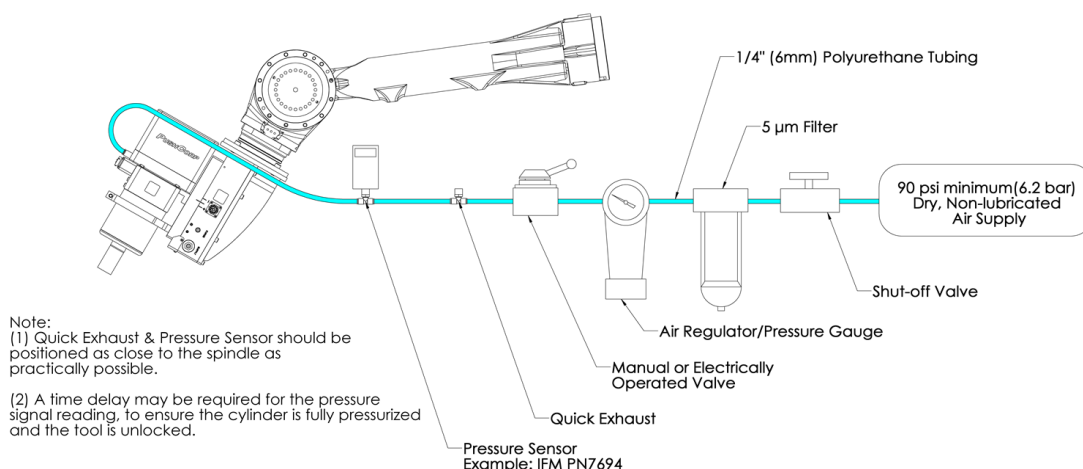

Figure 10: Pneumatic Connections
The pneumatic supply system should be configured as shown in Figure 10. A manual or electrically operated valve may be used to energize the STC for Toolholder release, but the valve must exhaust **ALL** line pressure when unenergized. PushCorp highly recommends the installation of a quick exhaust valve in the Supply Line to the STC; the quick exhaust valve should be mounted as close to the STC unit as possible. This will minimize the distance exhaust air needs to travel, thus decreasing the time needed for the unclamp cylinder to actuate. Pressure in the line will cause internal components to come into contact. This will either cause the motor not to spin, or cause very high internal forces, eventually friction welding components together. A pressure sensor capable of sensing below 0 psi should be installed in the supply line between the exhaust valve and the STC. PushCorp recommends the pressure sensor from IFM (PN: 7694); it has the capability to sense a pressure range of -14.5 psi – 145 psi.
3. Using a pressure sensor, such as IFM PN7694, verify that you have achieved at least 90 psi, again not to exceed 100 psi (refer to Figure 10 for connection set up)